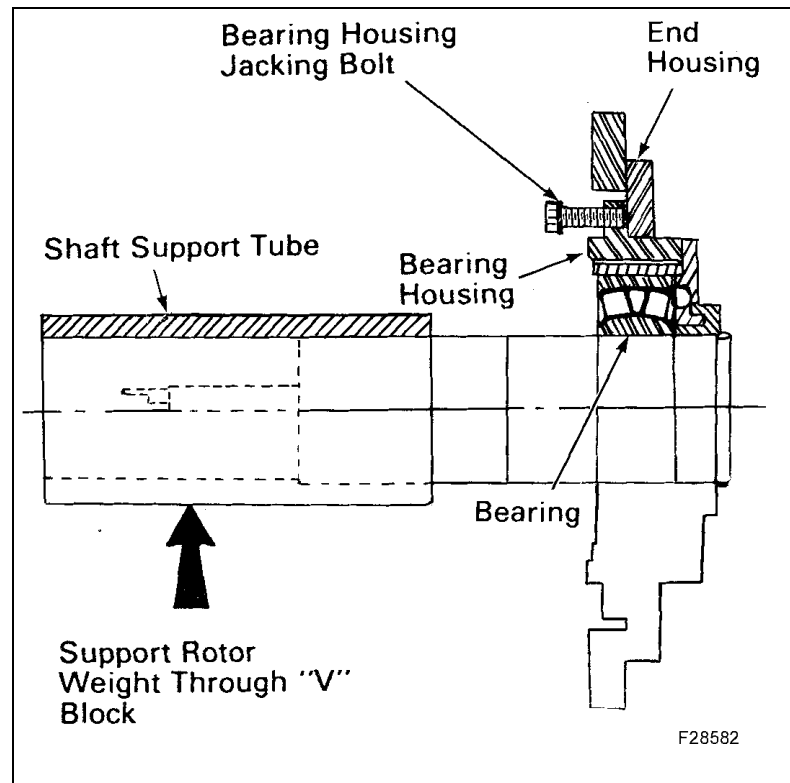
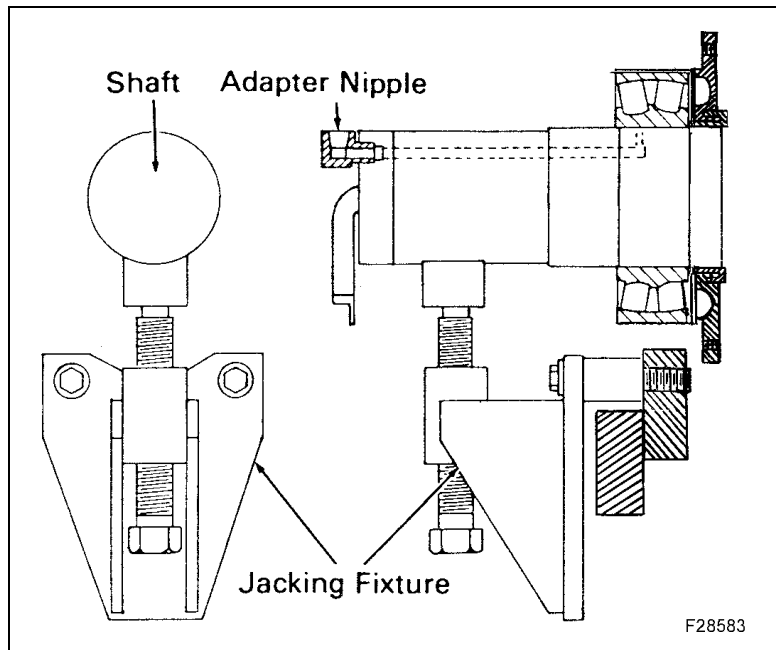

Figure 10 Bearing Housing Removal
Figure 11 Rotor Shaft Jacking Fixture
2. Install support tube as shown in Figure 10. Support shaft through a "V" block with an adjustable jack.
3. Remove the eight 3/4"-10 bolts securing bearing housing to the end housing, Figure 10. Insert four 3/4"-10 jacking bolts equally spaced around the bearing housing in jacking holes provided. Rotate jacking bolts equally until bearing housing is separated from the end housing.
5. With the bearing housing removed, install rotor shaft jacking fixture as shown in Figure 11. Raise rotor until bearing is approximately centered in the bore of the housing.
17. Install shaft support tube and supporting jack as shown in Figure 10 and Figure 11. Raise rotor until bearing is centered in the bore of the bearing housing.